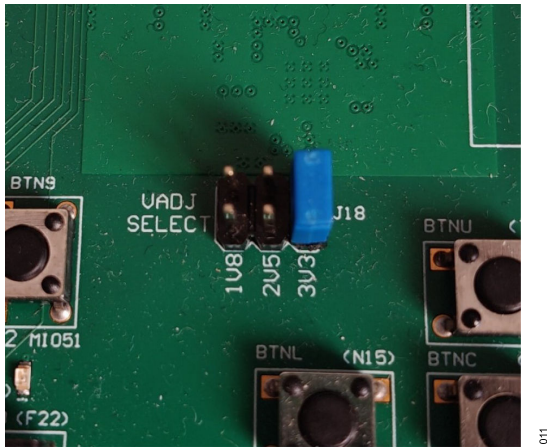

Figure 11. Jumper Position VADJ
3. Before executing the steps 4, 5, and 6, make sure that VADJ jumper is set to 3.3V, as shown in Figure 11 (install a header connector).